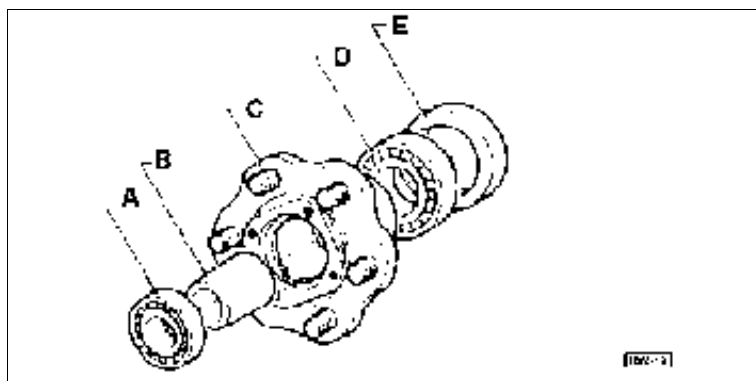

Fig. 19 - Wheel hub parts.
- Make use of a suitable puller to remove front ball bearing **A** and take spacer **B**, (Fig. 19).
- Remove retaining ring **E** by prising, then using a proper puller remove rear ball bearing **D**, (Fig. 19).